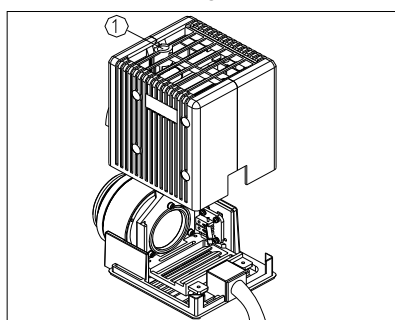

Fig.2
(1) Loosen the lock screw ① with the M4 inner hexangular spanner which is equipped with the microscope, to take off the cover group (See Fig. 2).